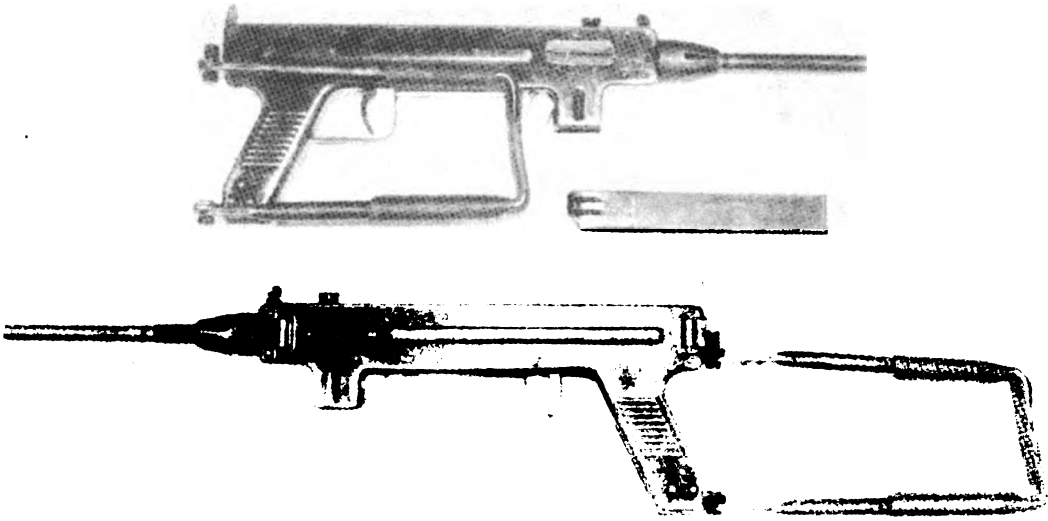

Figure 5
5. Identify the M50. (See fig. 5.)